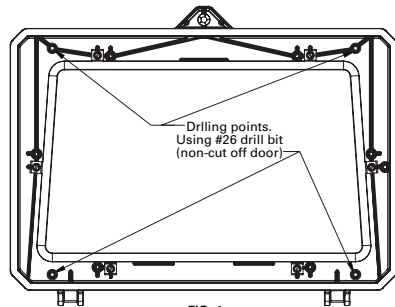
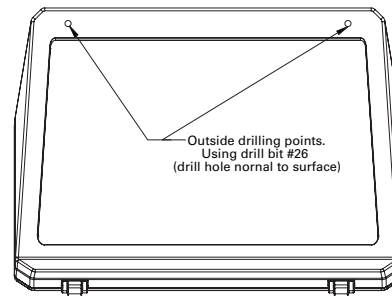
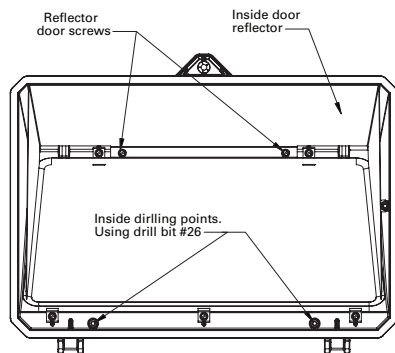

FIG. 1
FIG. 3
FIG. 2
FIELD INSTALLATION PROTECTIVE WIRE GUARD DOOR (FIG. 1 thru 4)
3. Using drill bit #26, drill four (4) thru-holes from inside the door and perpendicular to door's exterior surface **FIG. 1**. For FCO door **FIG 2**, drill two (2) holes on the inside of door and two (2) holes on the outside of door **FIG 3**. Do not drill through door reflector. To avoid damage, remove door reflector before drilling.